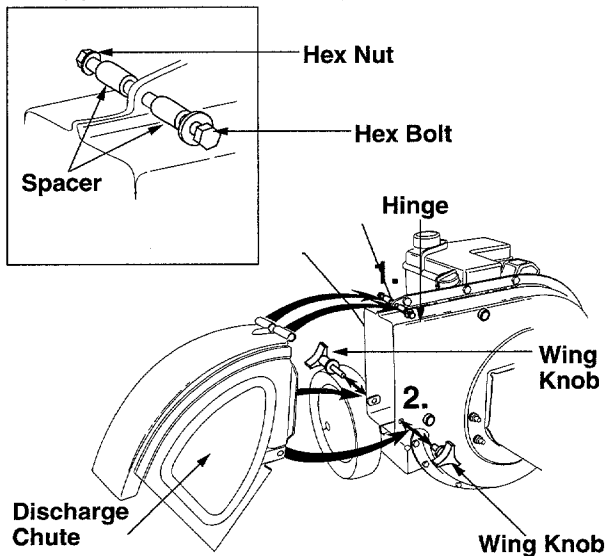

Figure 3
- Remove the wing knobs from each side of the discharge opening on the chipper-shredder. See figure 3.
- Place the discharge chute in position on the discharge opening. Insert hex bolt and spacer through hinge on discharge chute and housing (spacer fits inside of hinge). See figure 3 inset.